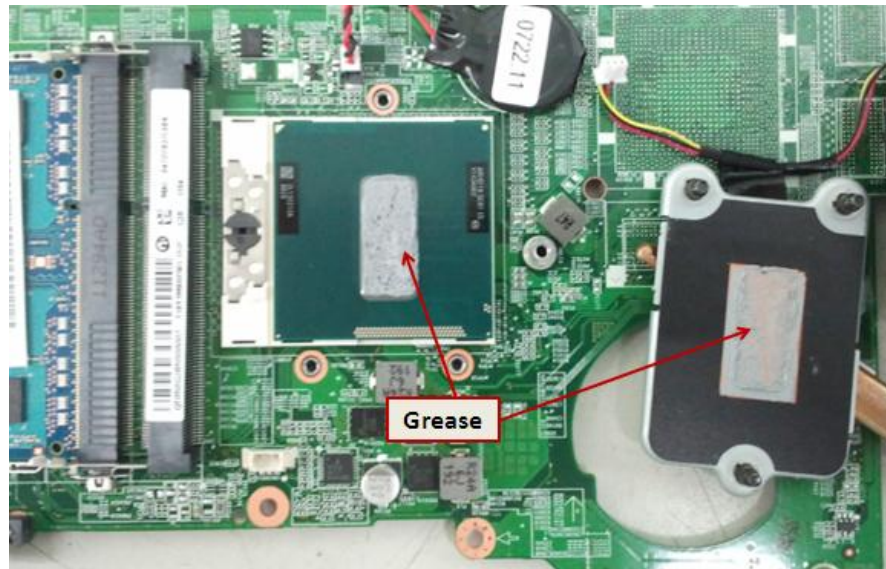

Figure 4-16-1 Intel &AMD Thermal pad on CPU
4.16 Use thermal pad and grease on CPU, North Bridge, and VGA board (see Figure 4-16-1 to 4-16-2)